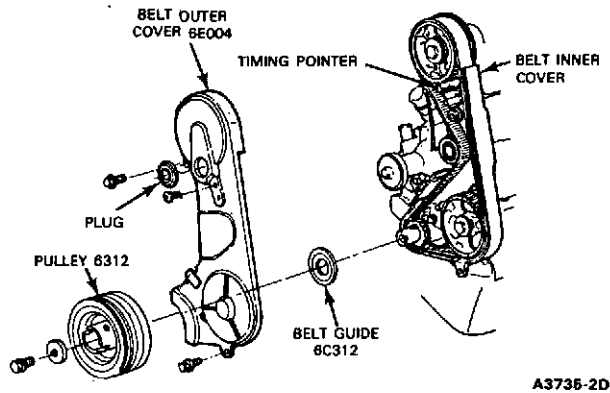

FIG. 9 Camshaft Timing Assembly
1. Remove the access plug (Fig. 9) from the cam drive belt cover.
3. Look through the access hole in the belt cover to be sure that the timing mark on the cam drive sprocket (Fig. 9) is lined up with the pointer on the inner belt cover.
1. Remove the access plug (Figure 9) from the cam drive belt cover.
3. Look through the access hole in the belt cover to be sure that the timing mark on the cam drive sprocket (Figure 9) is lined up with the pointer on the inner belt cover.
1. Refer to Figure 9 and remove the timing belt outer cover.
2. If the belt timing is incorrect, loosen the belt tensioner adjustment screw (Figure 9), position the tool shown on the tension spring rollpin and release the belt tensioner. Tighten the adjustment screw to hold the tensioner in released position.
3. Remove the crankshaft damper and belt guide (Figure 9).
9. Install the crankshaft damper and belt guide (Figure 9).